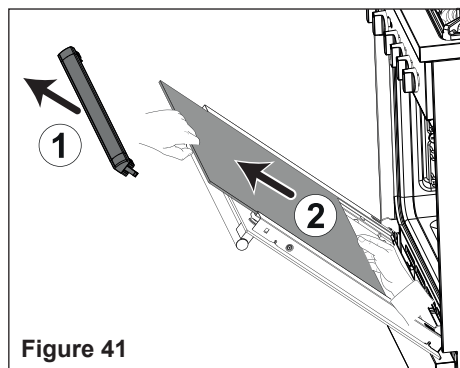
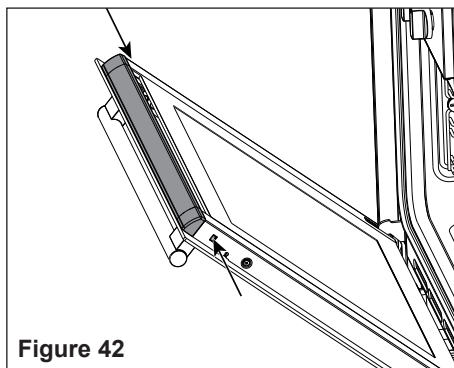

Figure 41
Figure 42
- Press the tabs on the sides of the glass retainer which is positioned at the top of the oven door (arrows in fig. 41), then gently remove the retainer (arrow 1 in fig. 42).
- Gently pull out the inner pane of glass (arrow 2 in fig. 42).